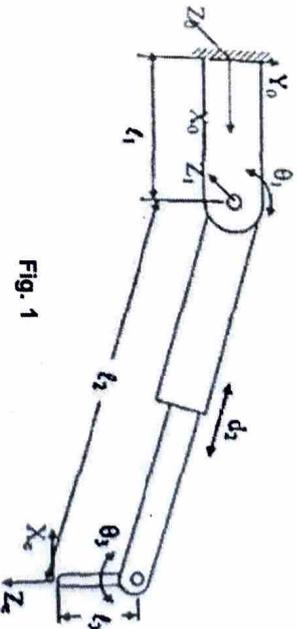

Fig. 1
5. (a) A spatial 3 DOF spraying robot has been designed as illustrated in Fig. 1. (i) Create the DH parameter table for the robot and (ii) Obtain the final transformation matrices by using direct kinematic analysis. (5)